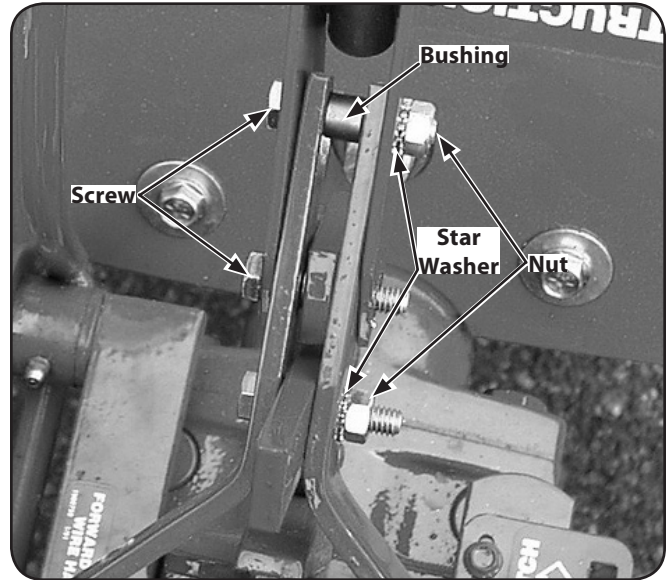

Figure 3-8
4. Align the rear most holes of the yoke plates and the Wheels/Tines PTO Lever. Use long nose pliers to hold the bushing in place while inserting the screw through the lever and yoke plates. See Figure 3-8. Install the star washer and the nut then hand tighten.